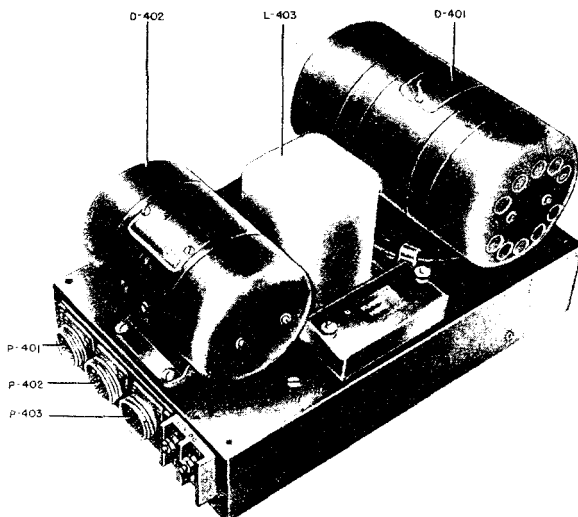

Figure 1-6 Dual Dynamotor Power Unit Type -21881-B. Front Perspective View
a. The Type CKP-21881-B Power Supply (figure 1-6) consists of a dual dynamotor unit operating from a 12-volt d-c source of power. One dynamotor furnishes 425-volt direct current for the high-voltage stages of the transmitter; the other furnishes 225-volt direct current for the low-voltage stages of the transmitter and for the operation of the receiver. Both circuits employ ripple-filter systems to reduce the ripple voltage to a negligible amount. Transmitter and receiver tube filaments and the relays are supplied from the same source of power as the dynamotors (batteries or other 12-volt d-c source.)